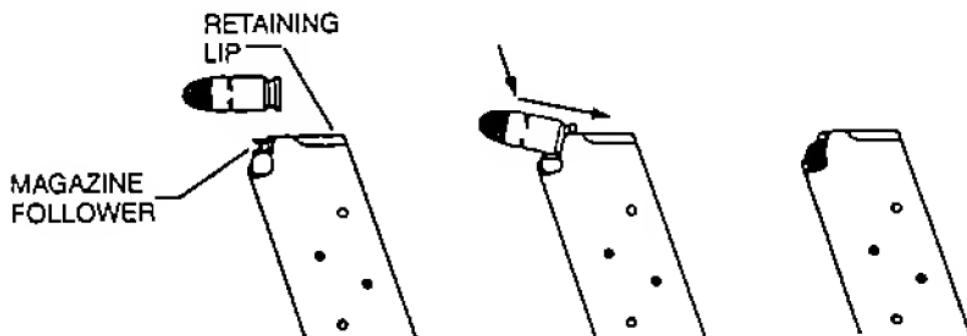

FIGURE 3 - LOADING MAGAZINE
**3. With open end uppermost, grasp the magazine in one hand. Place a round on the magazine follower with the base of the round just forward of the retaining lips (see Figure 3). Press the round down and back until the base of the round touches the rear flat edge of the magazine.**